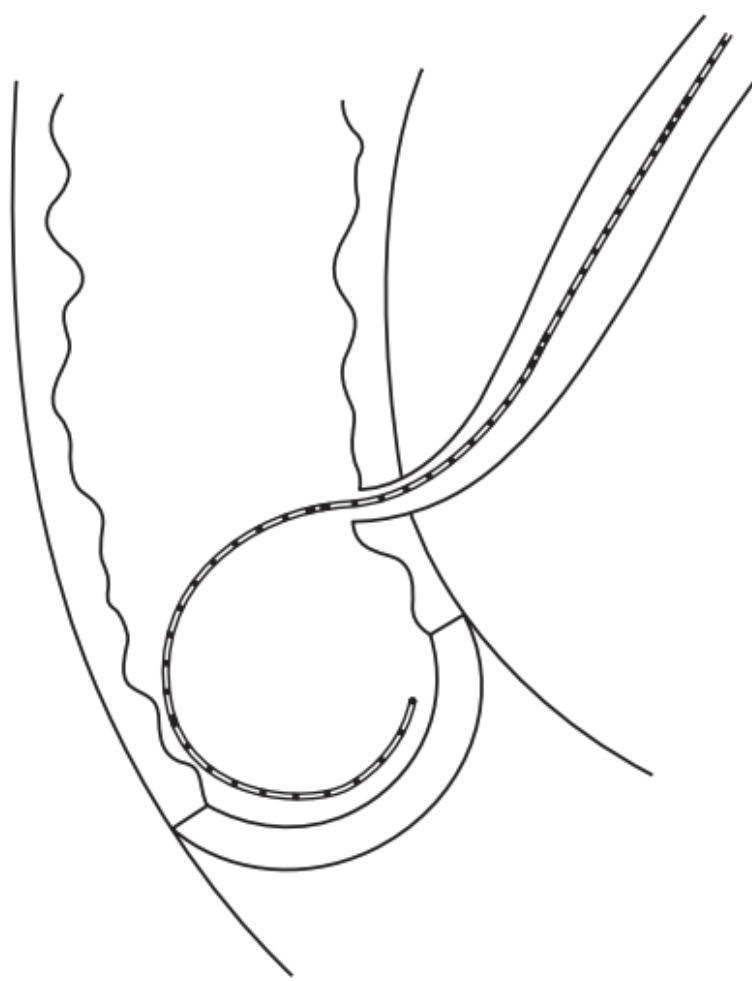

Fig. 2
5. About 15-20 cm of the flexible wire guide should be coiled within the duodenum to prevent inadvertent removal of the wire guide, and the position of the wire should be confirmed fluoroscopically. (Fig. 2)